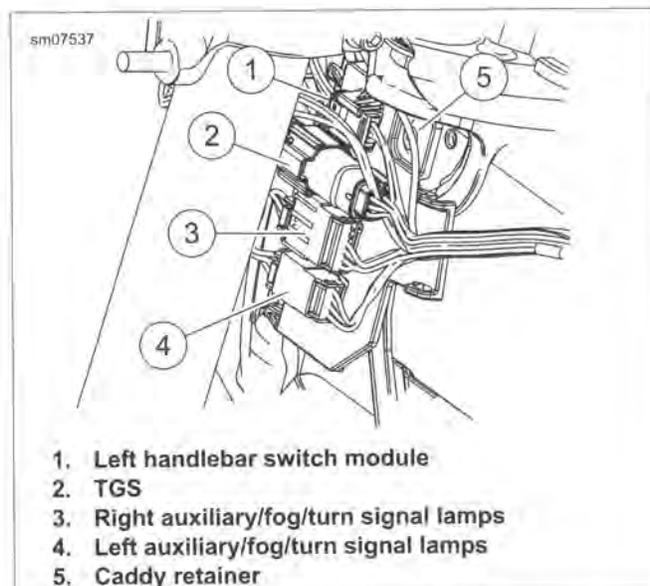

Figure 7-100. Left Side Connectors: Road King
2. See Figure 7-100. Separate connectors (1-4) at left steering head caddy. Leave main harness connectors secured to caddy.